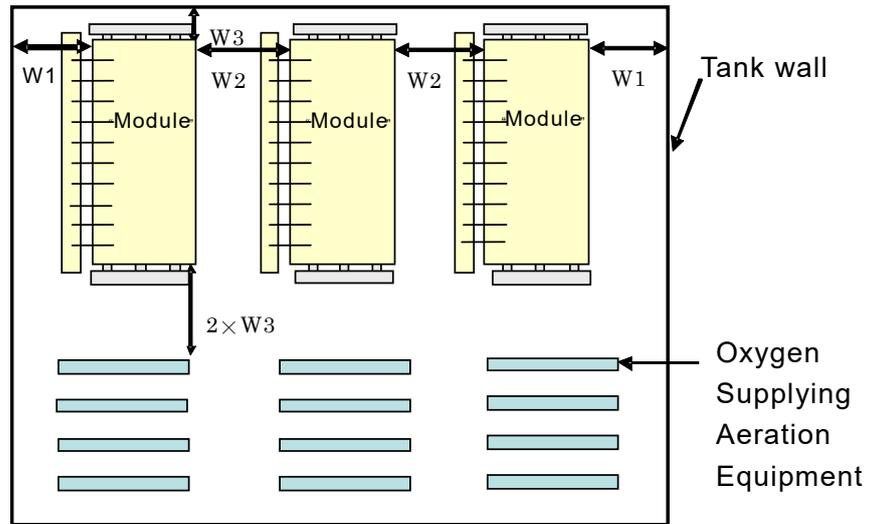

Fig.IV-7 Membrane Module Layout in Membrane Submerged Tank with other aeration equipment (top view)
- Please keep twice of W3 of the distance between the modules and other oxygen-supplying equipment in the case shown in Fig.IV-7,